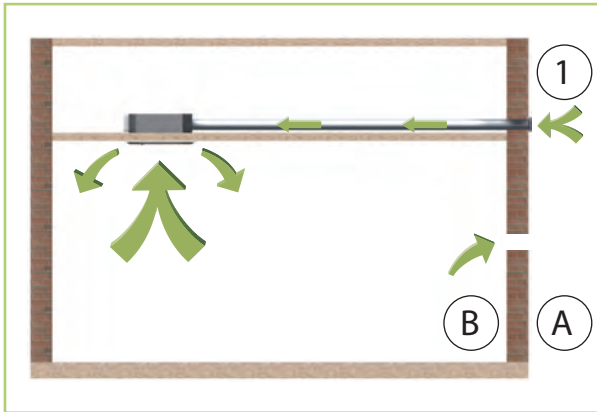

Fig. 35: Fresh air connection
- For the fresh air connection, a flanged collar with a minimum diameter of 65 mm must be mounting (Fig. 35).